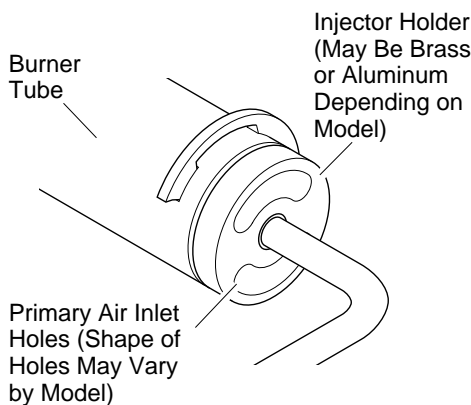

Figure 22 - Injector Holder On Outlet Burner Tube
2. Inspect burner, pilot, and primary air inlet holes on injector holder for dust and dirt (see Figure 22).